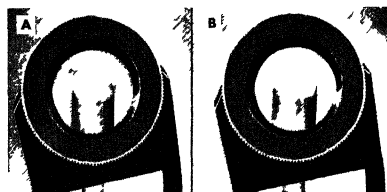

Figure 10-14.—Pivot points
4. With a magnifying glass, inspect the pivot point for wear. Study figure 10-14. The magnified pivot in part A is badly worn and rounded. The pivot in part B is properly shaped. (NOTE: A badly worn pivot point will cause a compass to be sluggish.)